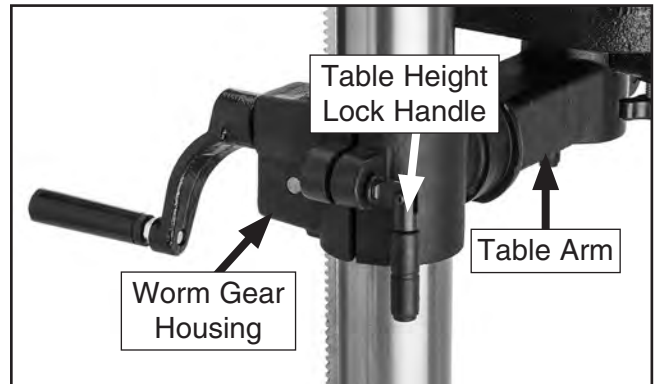

Figure 14. Table height lock handle inserted into cartridge.
- Thread (1) table height lock handle into worm gear housing cartridge (see **Figure 14**) and tighten until table arm will not move.